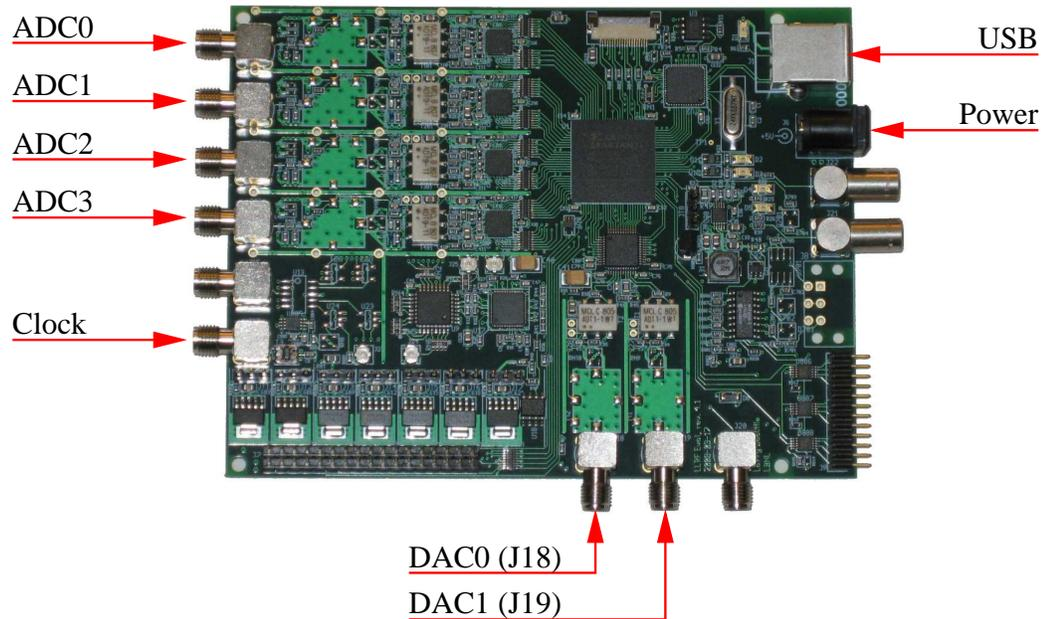

Figure 2: Connector locations.
- Connect the sampling clock (see Fig. 2 for connector locations);
Locations of connectors we will be using during this class are shown in Figure 2. Additional connectors on board (not referenced on the photo) include trigger inputs and outputs, low-speed digital and analog I/O, interlocks, and other service functions.